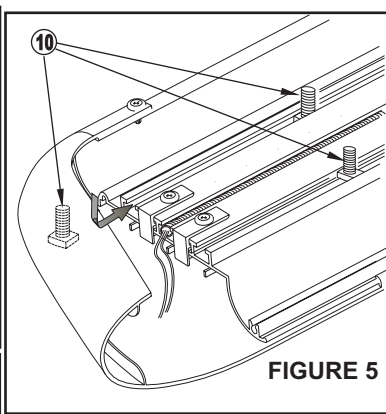
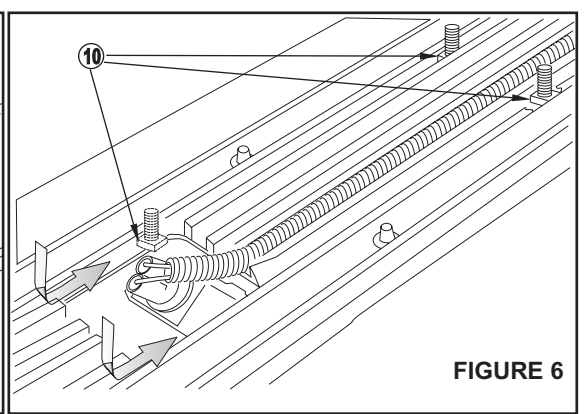

FIGURE 5
FIGURE 6
- STEP 3. Insert square head bolts as shown (3 per slot, 6 per board). **SEE FIGURES 5 AND 6. NOTE:** For lighted boards, run wiring harness prior to attaching board to brackets (Refer to Step 6). **SEE FIGURES 5, 6 & 9.** Run longer wire harness on passenger side.
HINT: Molded Step Boards: For longevity, check rubber seals before installation. Rubber grommets around red and blue wires going into rear sockets, should be inserted and recessed about 1/4". **NOTE:** Remove bulbs and apply white grease into sockets and replace bulbs. Apply RTV Silicone where lights go into socket. Install lights and run wire loom as shown. **SEE FIGURE 6.** For Sure Grip Running Boards, run wire loom down center as shown. **SEE FIGURE 5.**